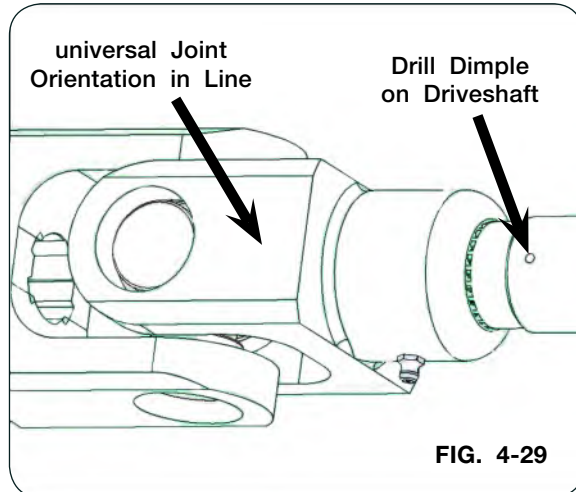

FIG. 4-29
14. For alignment of the yoke, the orientation of the universal joint at the gearbox **MUST** be in line with the driveshaft drill dimple when the driveline assembly is attached. (Fig. 4-29, 4-30, and 4-31)
15. With bearing mounting hardware completely tightened, drill a setscrew dimple in the driveshaft by going through the bearing setscrew threaded hole to dimple the driveshaft being careful to not damage threads. Drill the dimple to a depth that setscrews are flush with the bearing prior to applying thread locker and installing setscrews. (Fig. 4-29)